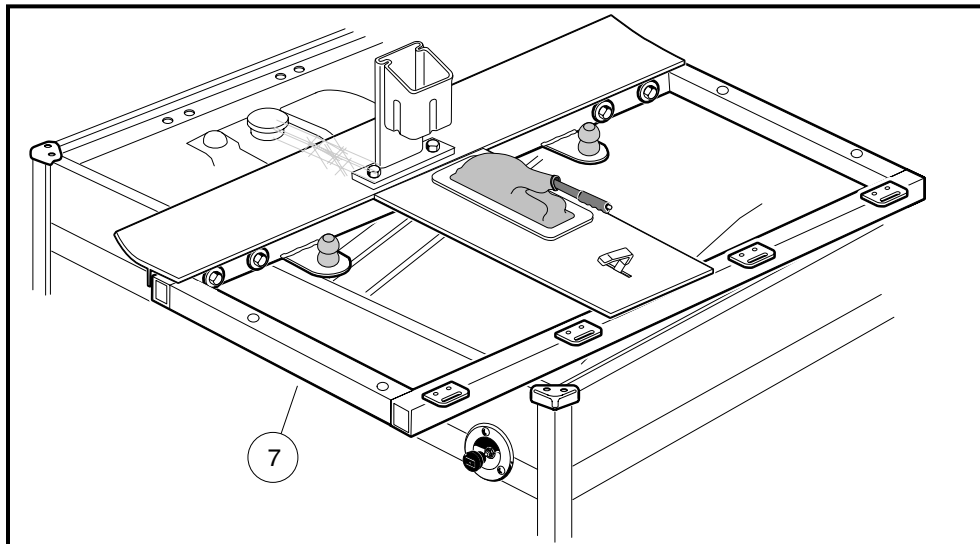

Figure 14-19 Fuel Tank Removal
9. Carefully remove and rotate the seat support (7) 90° clockwise and allow it to rest on the vehicle body as illustrated (**Figure 14-19, Page 14-28**). **See following NOTE.**
3. Return the seat support (1) to its original position by rotating it 90° counterclockwise (**Figure 14-19, Page 14-28**) and install the seat support and armrests. Tighten bolts (8) to 13 ft-lb (17.6 N·m). **See Figure 4-3, Section 4, Page 4-10.**